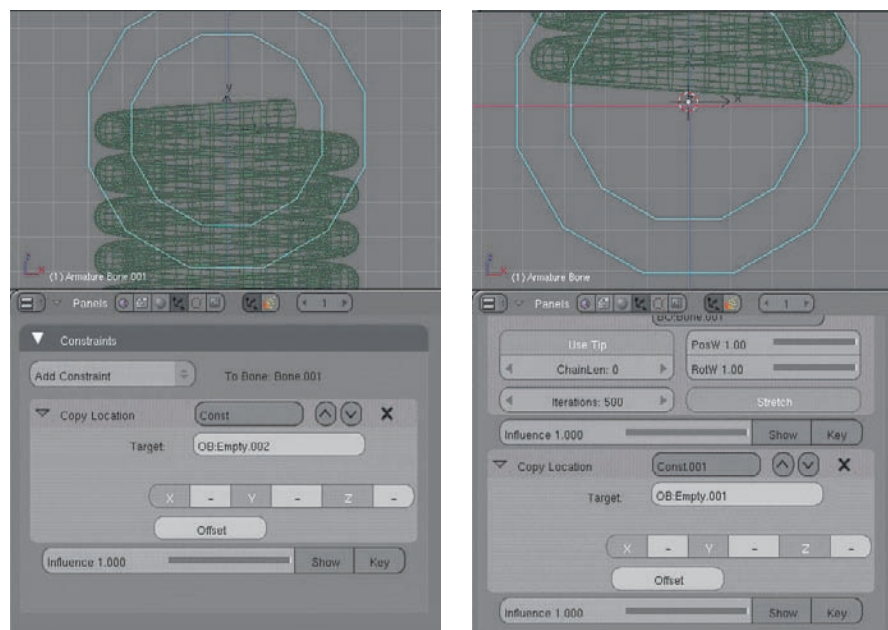

Figure 3.10 Copy Location constraints on the control bones
5. To make the empties' movement control the armature, set up Copy Location constraints for each of the bones. To do this, select the armature and enter Pose mode. Select each control bone and add a Copy Location constraint targeted to the appropriate empty, as shown in Figure 3.10. If you followed the steps in the same order as I did, the top bone will be constrained to Empty.002 and the bottom bone will be constrained to Empty.001.